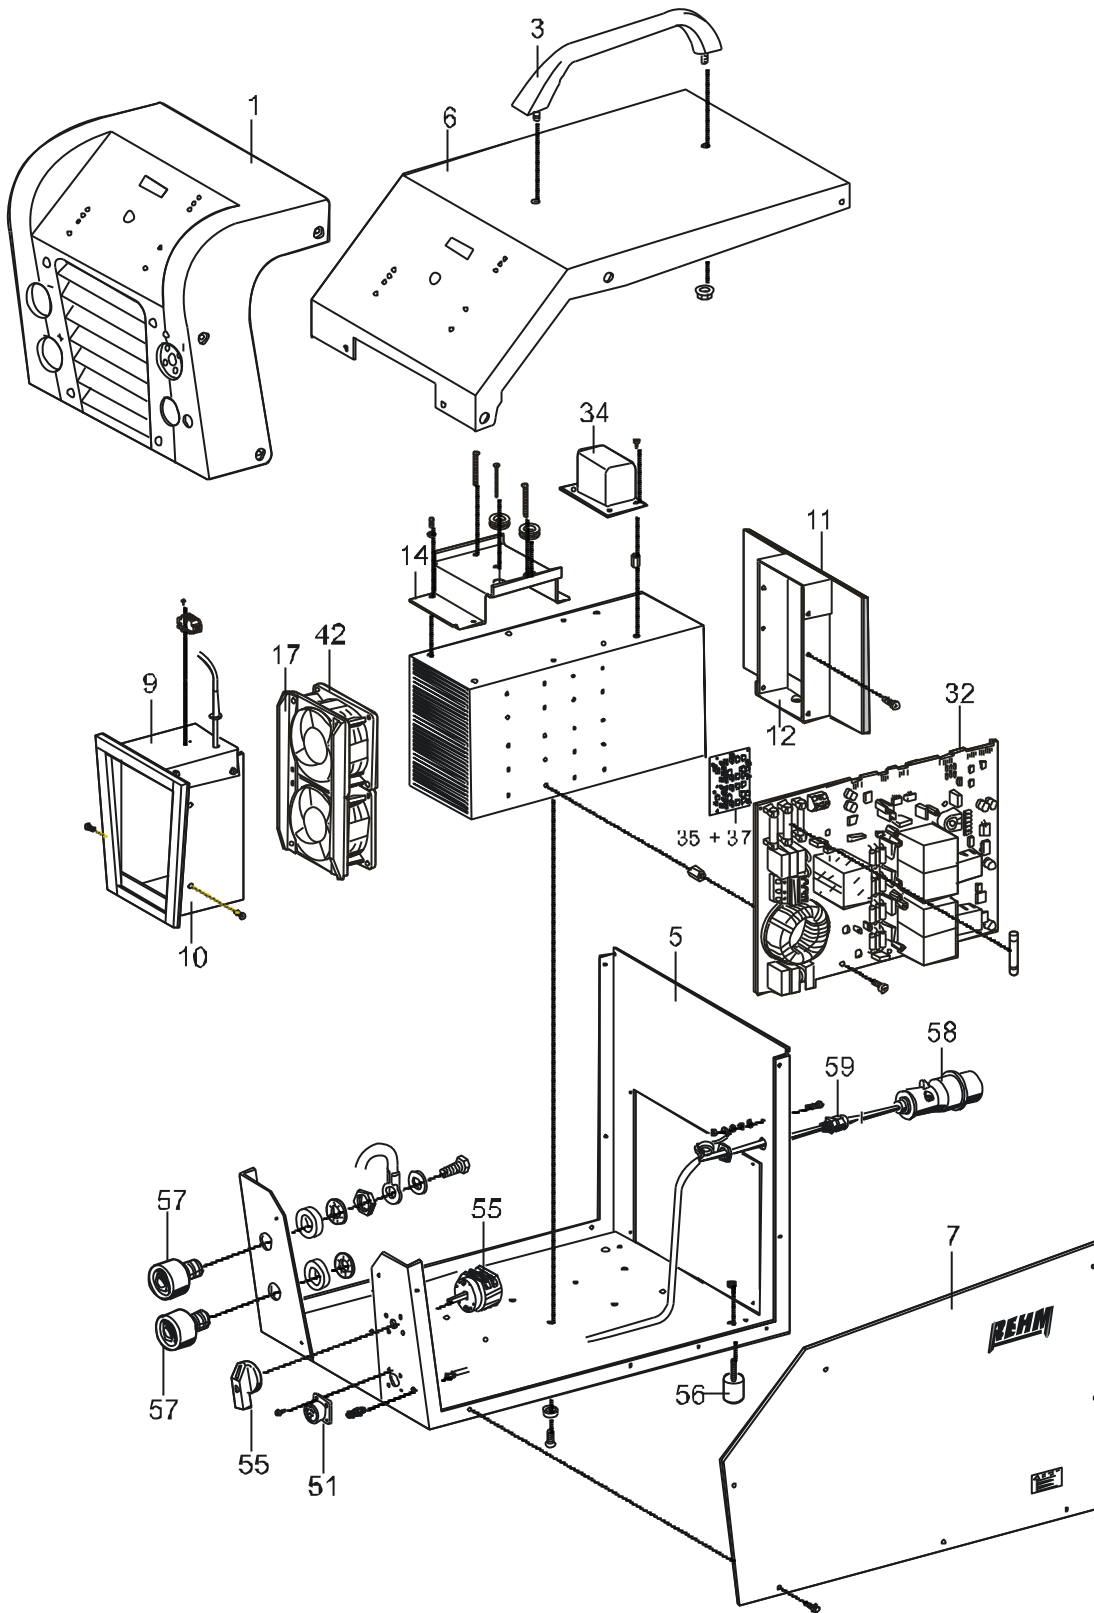

Fig. 3: Exploded view BOOSTER.PRO 250 / 320 (right hand side)
* Component not shown in explosive views (Fig. 3+4).